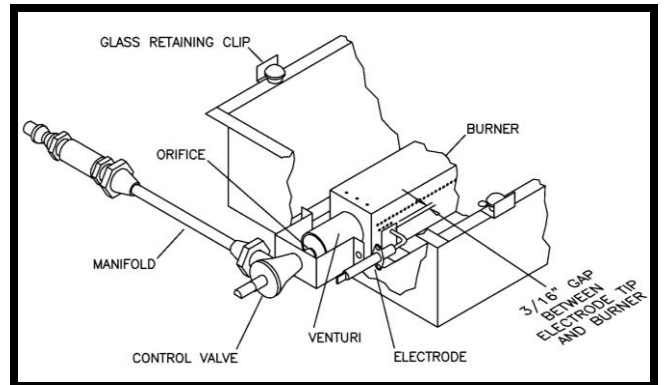

Figure 10 Location of Orifice, Venturi, Burner Control Valve, and Electrode
WARNING: THE BURNER VENTURI TUBE SHOULD BE INSPECTED FOR SPIDER WEBS AND OTHER OBSTRUCTIONS PRIOR TO EACH USE (SEE FIGURE 10, PAGE 10 FOR VENTURI LOCATION). IF ANYTHING IS FOUND, CLEAN THE TUBE COMPLETELY. A CLOGGED TUBE CAN LEAD TO A FIRE BENEATH THE UNIT.
4. While pushing the Spark Igniter Button depress and rotate the Burner Control Knob while checking for flame. Flame may be visually seen by looking into the Flame Observation Viewpoint on the side of the grill (See Figure 10, page 11). Also one can generally hear the burner ignite and then feel warmth rising to the cooking surface at the front and back of the Radiant Glass Panel when ignition occurs. If flame is not present and ignition does not occur within 10 seconds, turn the Burner Control Knob to “OFF” and wait 5 minutes before attempting to relight the grill. After waiting 5 minutes repeat steps 3 and 4. If the grill does not ignite using the spark ignition system, the burner may be ignited with a match following the procedure on Page 10.